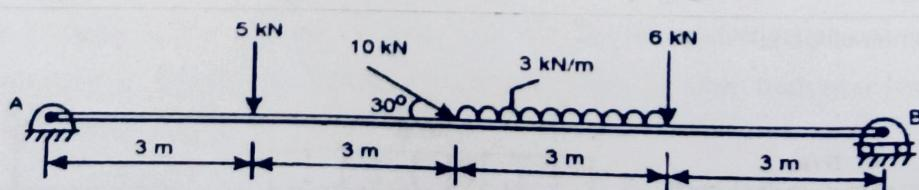

Fig 2.51
- 4) A beam AB is loaded as shown in fig 2.51. Draw Free body diagram.